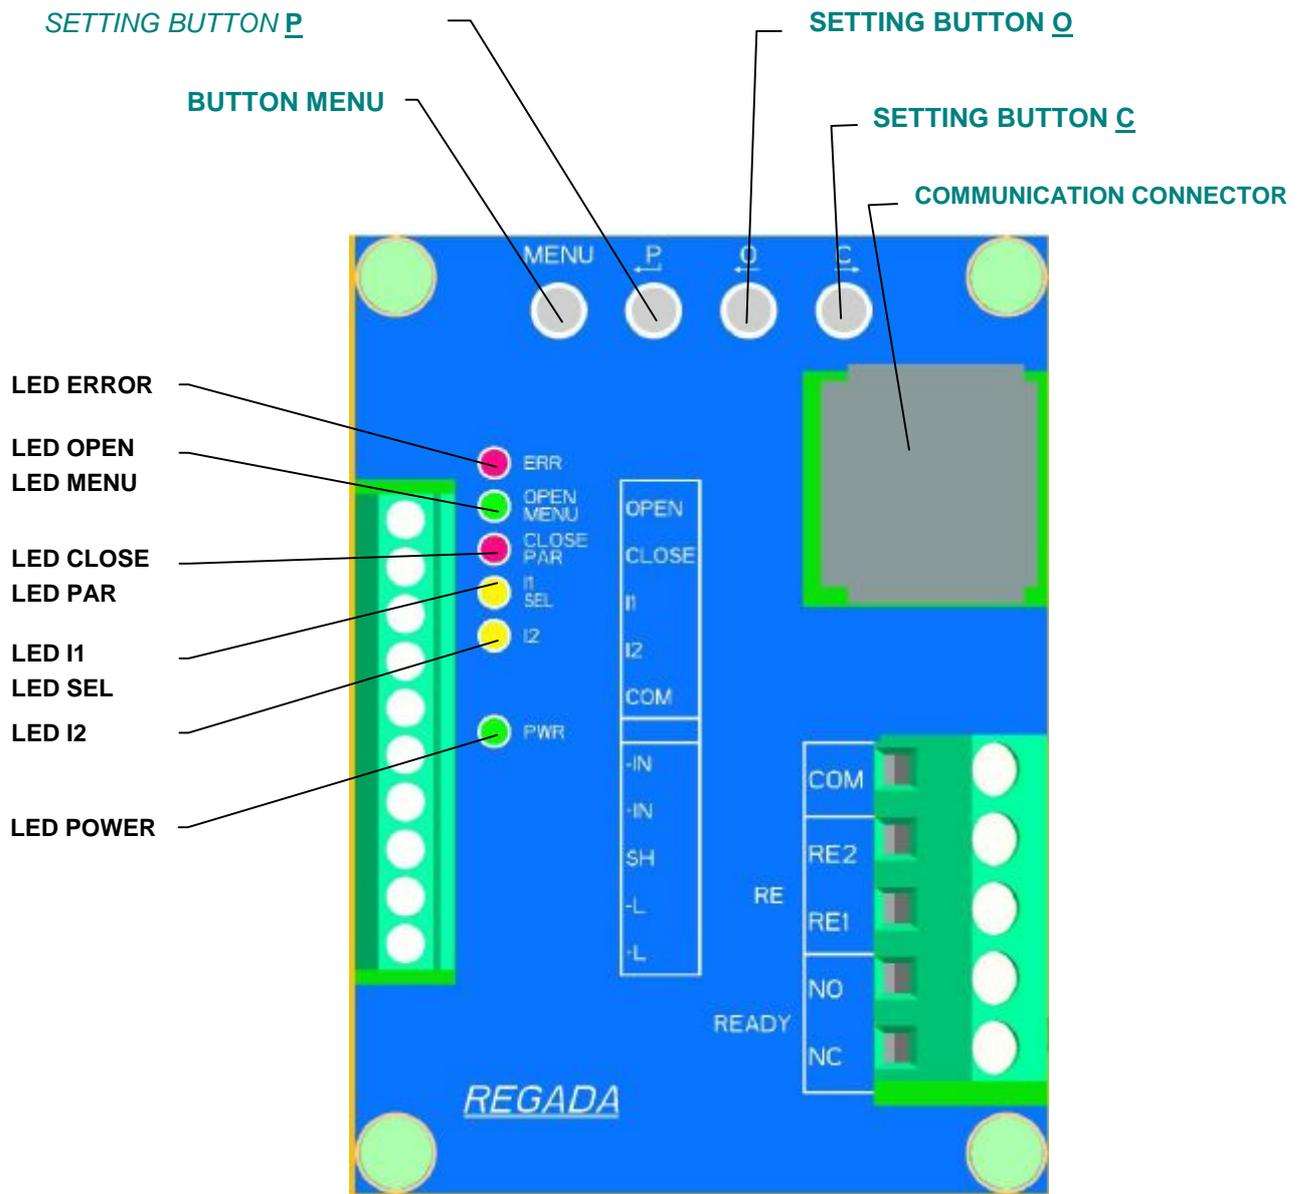

Fig. 6
The adjustment can be performed at a mechanically and electrically connected EA. This chapter describes how to set up the ES to parameter values within a range applicable for the software. Laying of adjusters of the control board is shown on **Fig.6**.
- by operating the control unit buttons (**see Fig. 6**);
- six signal lamps according (LED diode) to **Fig. 6**.